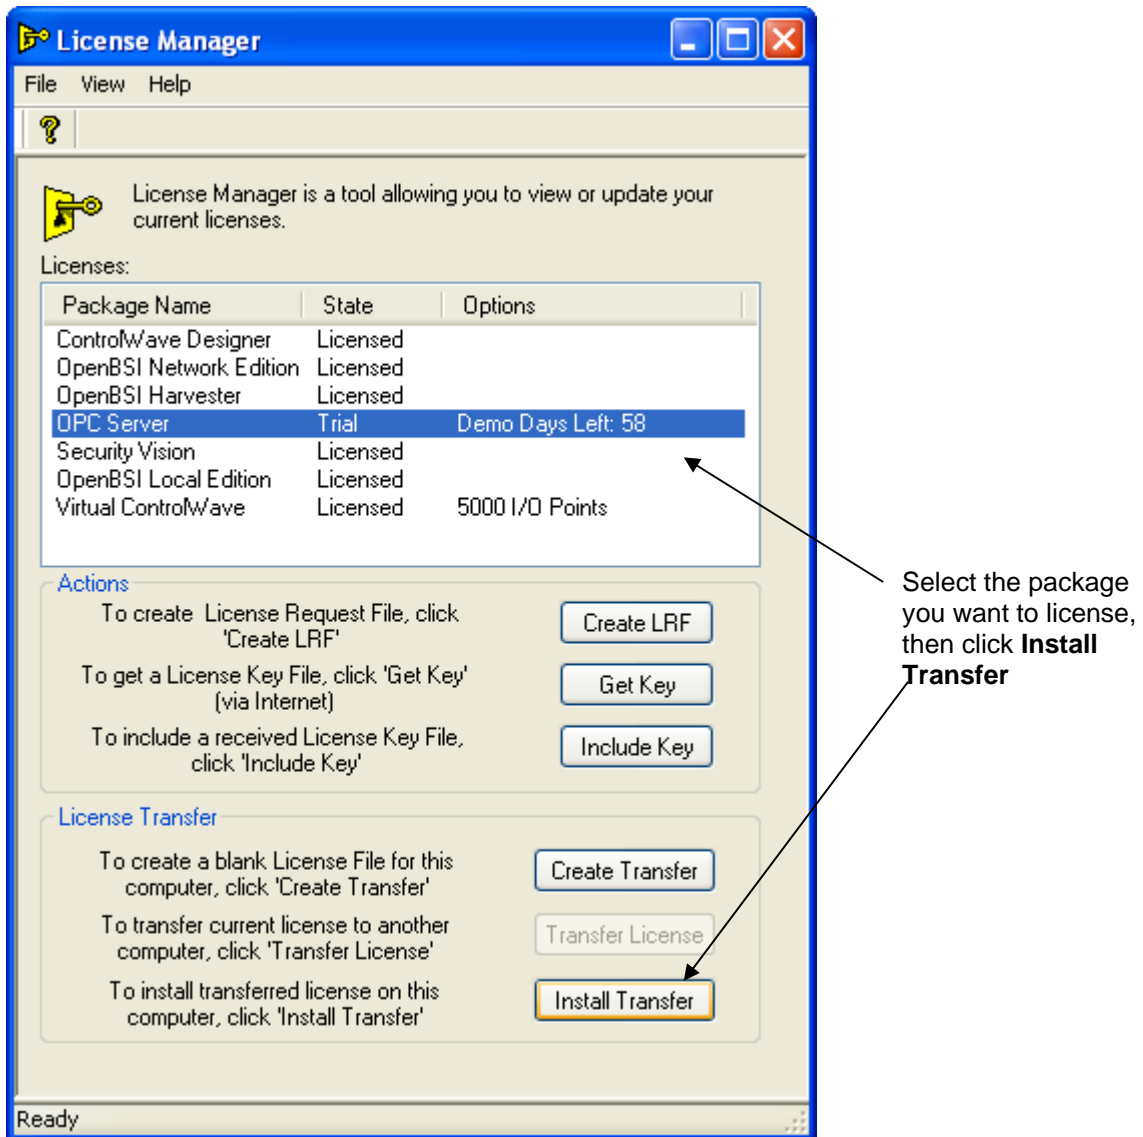

Figure 2-23. Install Transferred License
12. Once you copy the XFR file to the destination computer, you can install, and complete the transfer. To do this, select the package which needs to be licensed, then click **Install Transfer**. (See Figure 2-23.)